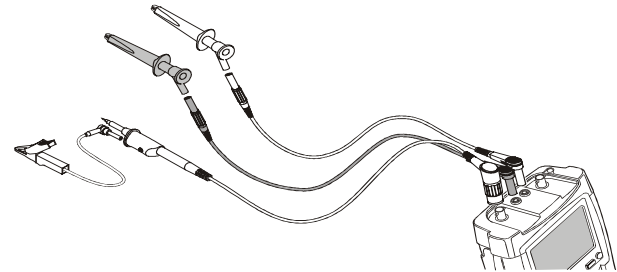

Figure 19. Scope Record Using External Triggering
- 4 Apply the signal to be recorded to the red BNC input A. Apply a trigger signal to the red and black external trigger banana inputs. (See Figure 19.)